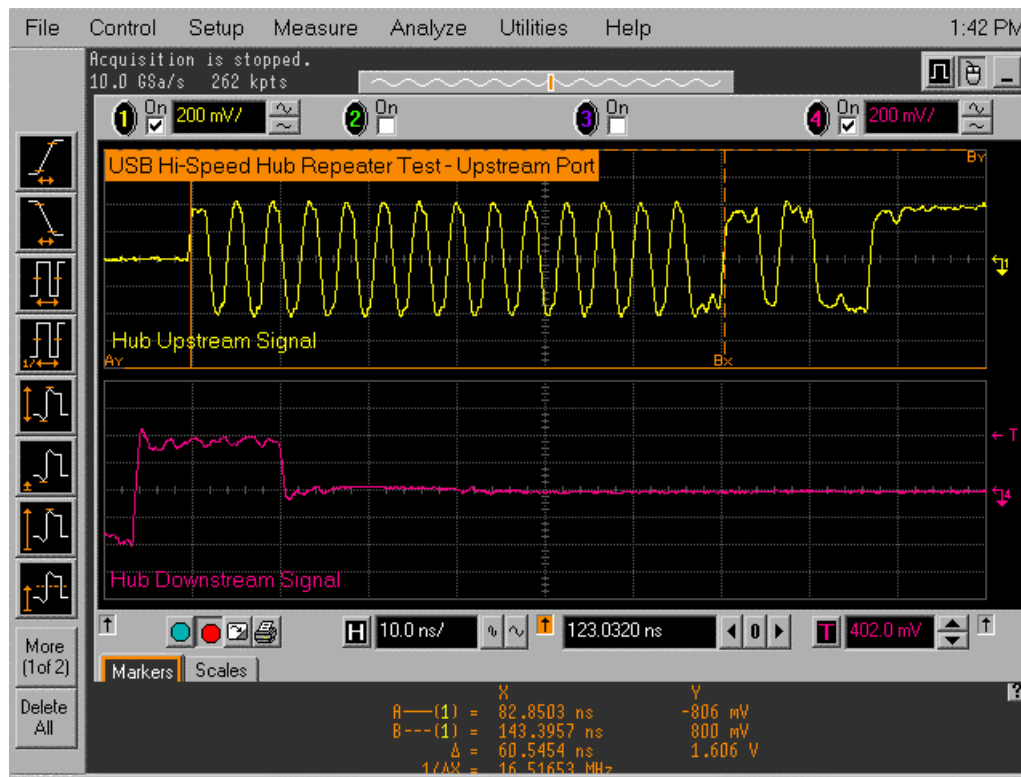

Figure 37. Sync Bit Truncation – No More than 4 Bits (change picture)
- c. Refer to the top trace (Ch 1) in Figure 37 that has 29 bits in the sync field for example.